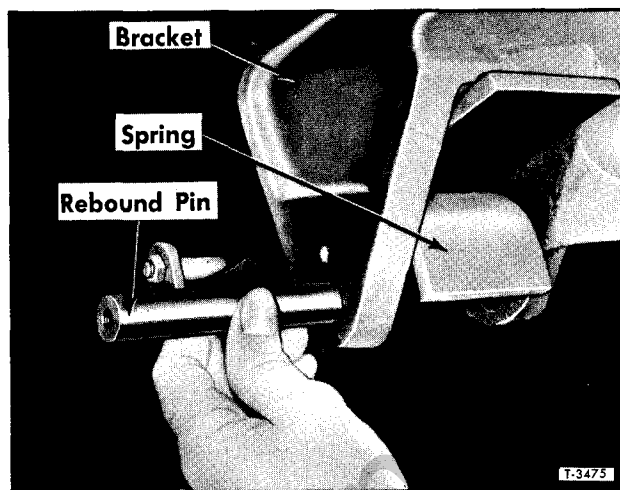

Figure 3—Removing or Installing Rebound Pin (Typical)
1. Remove bolts and lock washers used to hold rebound pin locks or retainers to spring brackets. Pins are installed flush with surface of bracket with retainer hooked over side of bracket; or the locks fit into a groove in the rebound pin. Refer to figure 3 and remove rebound pins.